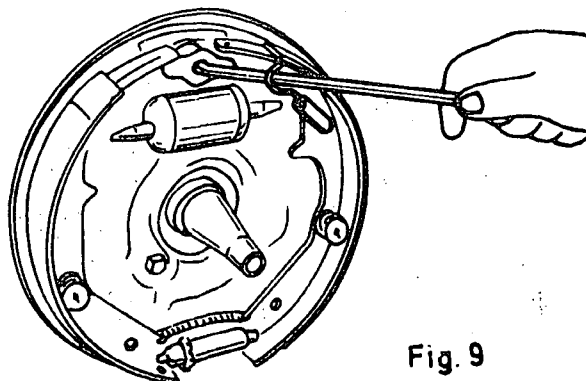

Fig. 9
- f) Replace the anchor pin plate and the retracting springs. (fig. 9).